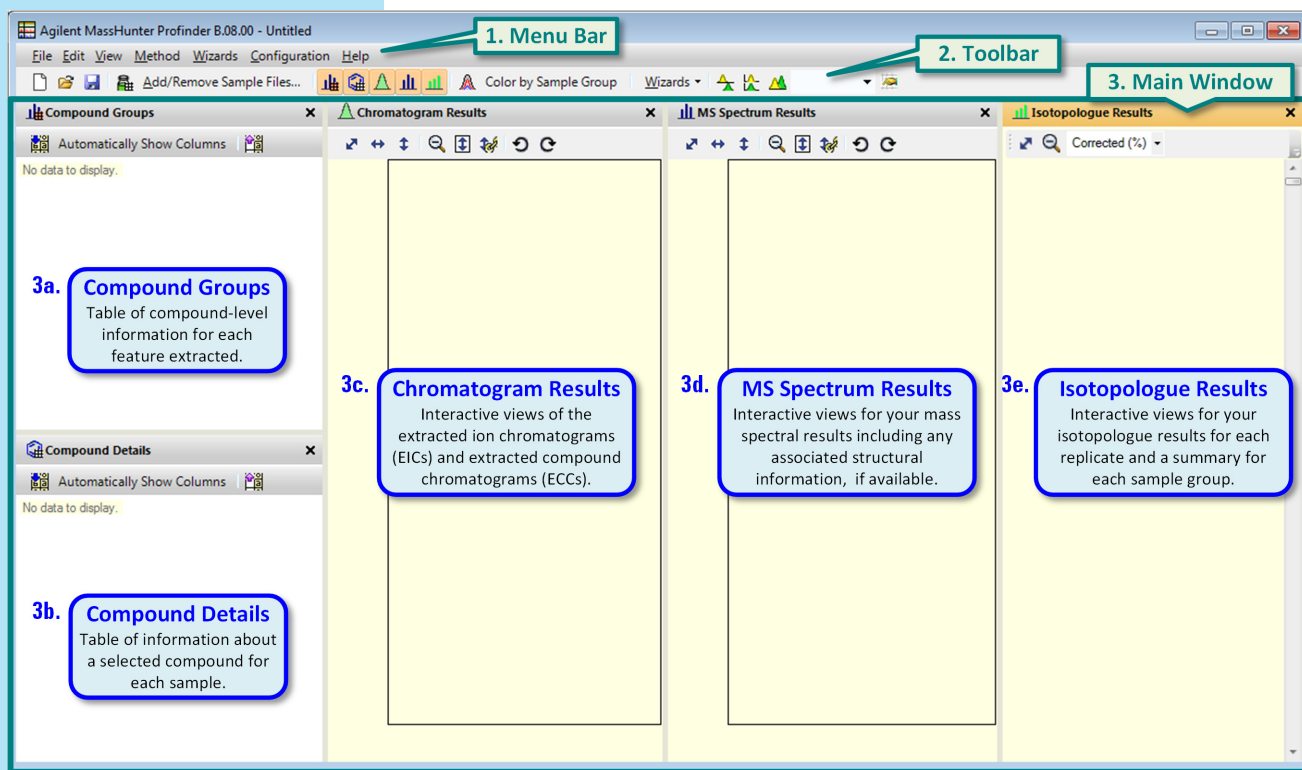

Figure 37 Screen areas of MassHunter Profinder
The main functional areas of Profinder are shown in Figure 37 on page 49. The main Profinder window consists of three parts: (1) the Menu Bar, (2) the Toolbar, and (3) the Main Window.
The order of the appearance of the samples and sample groups you set in the **Add/Remove Sample Files** dialog box determines the order of the results viewed in the *Isotopologues Results* area of the *Main Window* (Figure 37 on page 49).